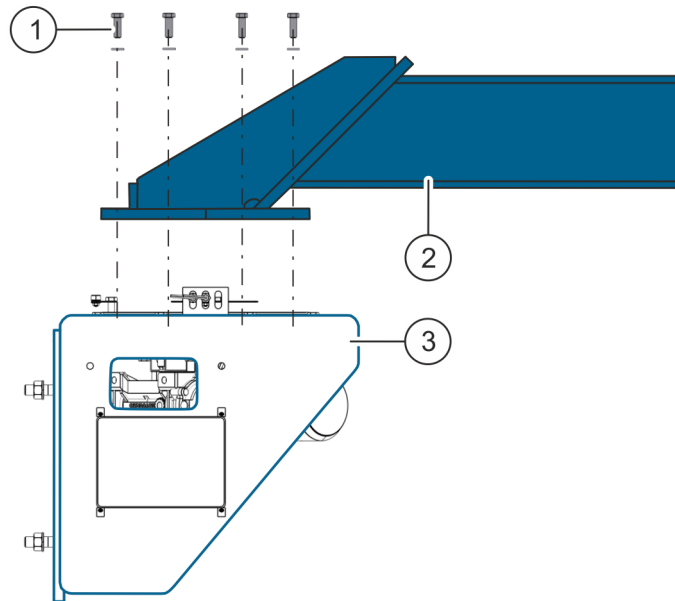

Fig. 13: Assembling the cantilever arm
- 7.** ➤ Assemble the cantilever (Fig. 13/2) on the swivel arm base (Fig. 13/3) with eight screws and nuts (Fig. 13/1).